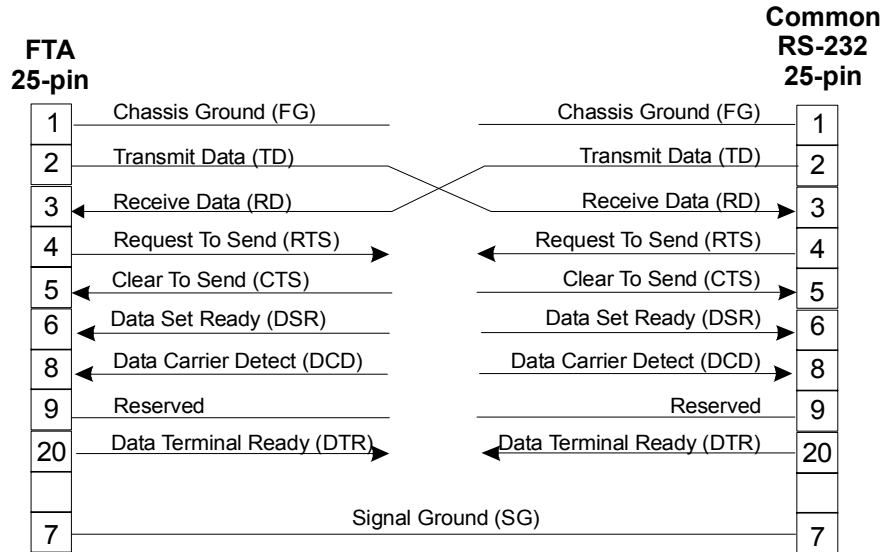

Figure 4 Pins common to RS-232 25-pin connector and FTA J2, DB-25 type connector.
You will need a null modem cable with a 25-pin, male connector to connect the EIA-232 Modbus device to the J2, DB-25 type connector on the FTA. Use the J2 connector pinout data in Figure 4 to construct the EIA-232 interface cable. Since individual Modbus device connections may vary, be sure to modify the common EIA-232 pinouts shown in Figure 4, so that the FTA Transmit Data pin (2) connects to the Modbus device Receive Data pin and the FTA Receive Data pin (3) connects to the Modbus device Transmit Data pin. Be sure the length of the EIA-232 interface cable does not exceed 15 meters (50 feet).
You will need a null modem cable with a 25-pin, male connector to connect the EIA-232 Allen-Bradley device to the J2, DB-25 type connector (female) on the FTA. Use the J2 connector pinout data in Figure 4 to construct the EIA-232 interface cable. Since individual A-B device connections may vary, be sure to modify the common EIA-232 pinouts shown in Figure 4, so that the FTA Transmit Data pin (2) connects to the A-B device Receive Data pin and the FTA Receive Data pin (3) connects to the A-B device Transmit Data pin. Refer to the pinout description in the Allen-Bradley device manual and the Special FTA to KE/KF cabling considerations in *Appendix A*. Observe the following general cabling guidelines.